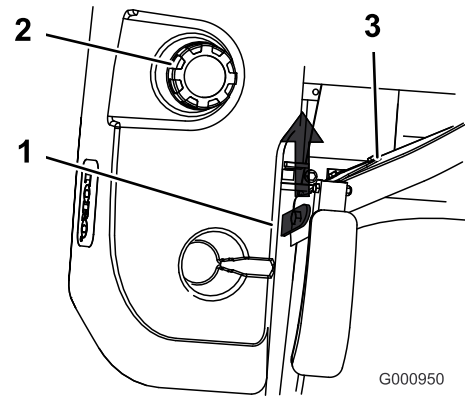

Figure 23
3. Raise the seat up. This will allow access to the machine (Figure 23).